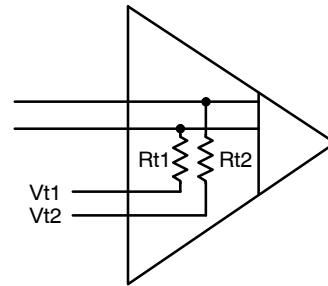

Figure 7. Internal Termination Singulated
2. Internal Termination Singulated Pins (see Figure 7)
The second configuration, Figure 7: Internal Termination Singulated, allow greater circuit versatility but still dissipates a thermal contribution to the device according to: